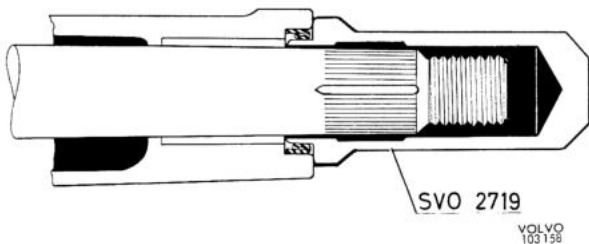

Fig. 6-58. Fitting the pitman arm shaft
7. Turn the steering cam so that the ball nut is moved to the lower end position. Fit the nut guide onto the ball nut. Lubricate the oil seal (24) and fit the pitman arm shaft into position. When doing this, protect the oil seal with tool SVO 2719, see Fig. 6-58. Then turn the ball nut to the centre position. Fit the gasket (11) and steering box cover (12). Tighten the two bolts to a torque of 1.7—2.1 kpm (12—15 lb.ft.).
8. Place the spring guide (6) in position but without the springs (7). Fit the paper and steel shims as well as the stop plate (8). The gaskets have a thickness of 0.127 mm (0.005") and the shims are available in thicknesses of 0.05, 0.127 and 0.254 mm (0.002, 0.005 and 0.010"). Tighten the three bolts to a torque of 1.7—2.1 kpm (12—15 lb.ft.). N.B. Check to make sure that there is axial play on the pit-